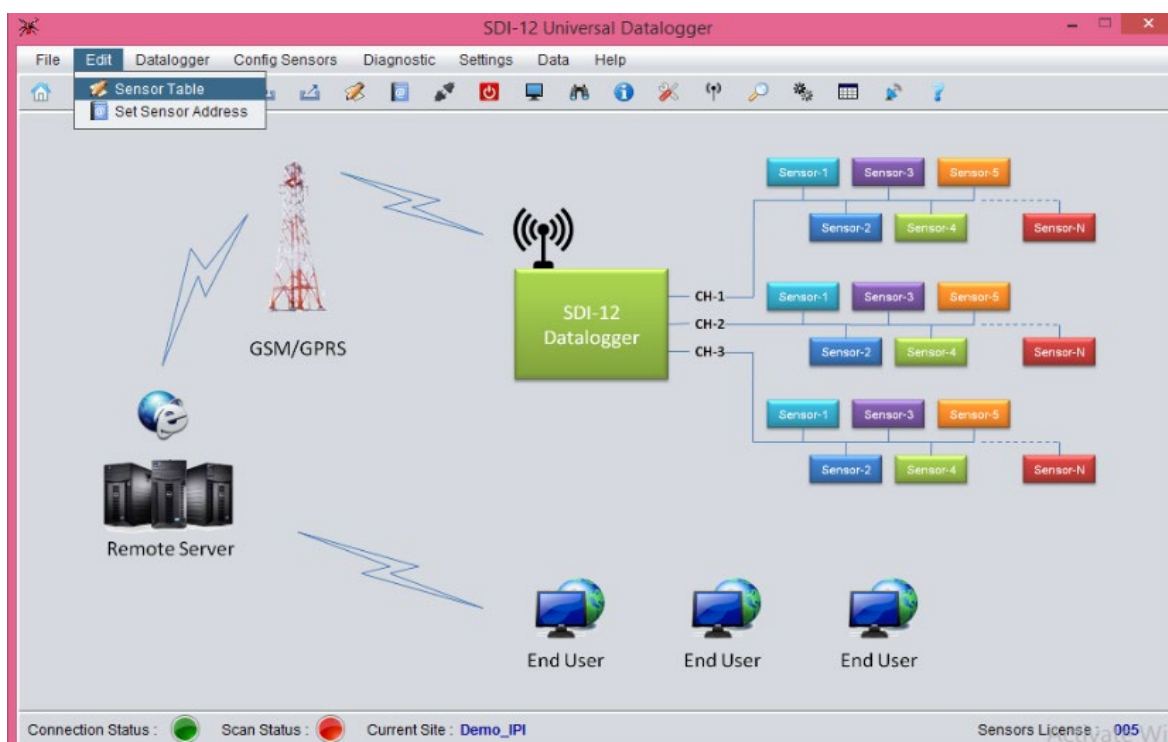

Figure 7-16 Edit menu with sensor table option of EDSL-30UNI Configuration Manger Software
- 15 Click “Edit” menu followed by “Sensor Table” as shown in figure 7-16 below to define the parameter name & unit of each sensor